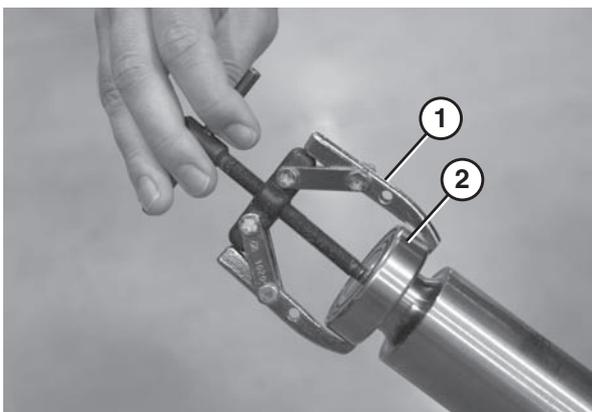

Figure 91
2. Using a bearing removal tool (Figure 91, item 1), remove the bearing (Figure 91, item 2).